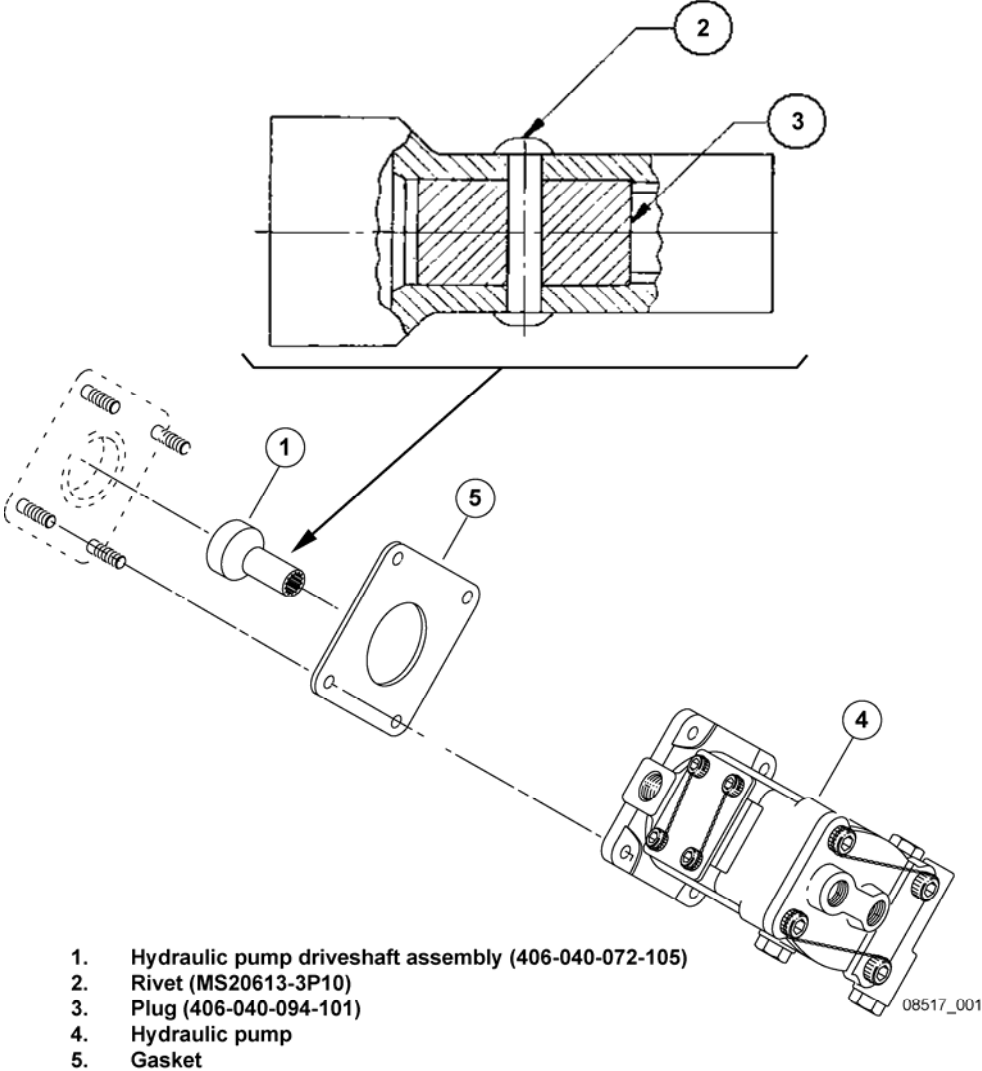

Figure 1. Hydraulic pump driveshaft assembly
1. Inspect hydraulic pump driveshaft assembly (1, Figure 1) for missing rivet (2) or plug (3).
2. If rivet (2) or plug (3) is missing, submit a completed MMIR to BHTI Warranty Department and order parts listed in the MATERIAL section of this bulletin.
3. If rivet (2) or plug (3) is not missing, attach a serviceable tag to the hydraulic pump driveshaft assembly (1) and write "THIS HYDRAULIC PUMP DRIVSHAFT ASSEMBLY COMPLIES WITH ASB 407-08-83".
1. Remove hydraulic pump driveshaft assembly (1, Figure 1). Refer to BHT-407-MM-4, Chapter 29.
2. Inspect hydraulic pump driveshaft assembly (1) for condition and missing rivet (2) or plug (3). Refer to figure 1 and BHT-407-MM, Chapter 29.